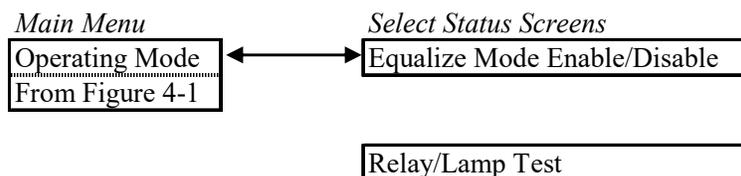

FIGURE 4-3 CHARGER OPERATING MODE MENU
Press SEL at the **Operating Mode** screen to select float or equalization as the desired operating mode. This menu also contains a relay/lamp test function. See Figure 4-3. If password protection is enabled, only authorized personnel will be able to access these menus.
1. At the **Home** screen press UP or DN until OPERATING MODE appears. See Figure 4-3.
1. At the Home screen press UP or DN until OPERATING MODE appears. See Figure 4-3.